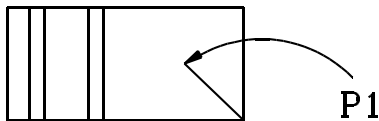

Figure 5
17. In the top view, click on point P1, then type <Page Down> .25, followed by ENTER. (See Figure 5.)
18. Click on point P1, then type <Page Down> .375, followed by ENTER. (See Figure 5.)
19. Click on point P1, then type <Page Up> .25, followed by ENTER. (See Figure 5.)